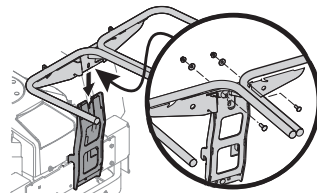

Figure 11
1. Install and secure the hanger assembly (683-04461C) onto the vertical bagger support using two carriage bolts (710-0276), two cup washers (736-0242) and two lock nuts (712-04063) from hardware pack 689-02364. See Figure 11.